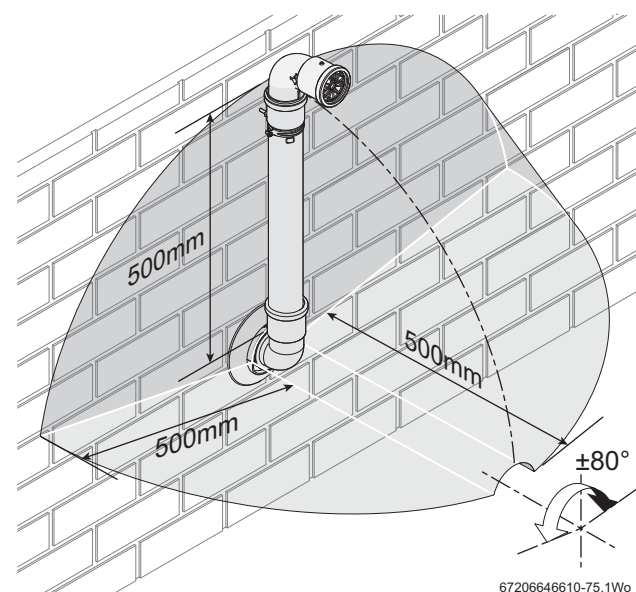

Fig. 19 Terminal exclusion zone
- ▶ Do not terminate the plume management inside the shaded area shown in figure 19